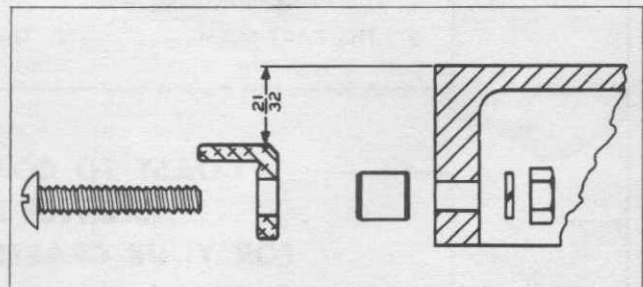

FIGURE 2
The front fence bar must be fastened to the front edge of the saw table with three (3) slotted head screws, No. 10, spacers, No. 11, lock washers, No. 12, and hex nuts, No. 13. See Fig. 2.